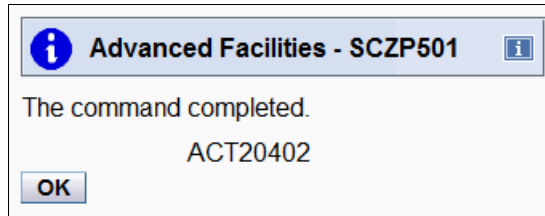

Figure 14-17 OSA/SF on HMC: message when activation completed
13. When the activation is successfully ended, the next panel opens (Figure 14-17). Click **OK** to complete the process.